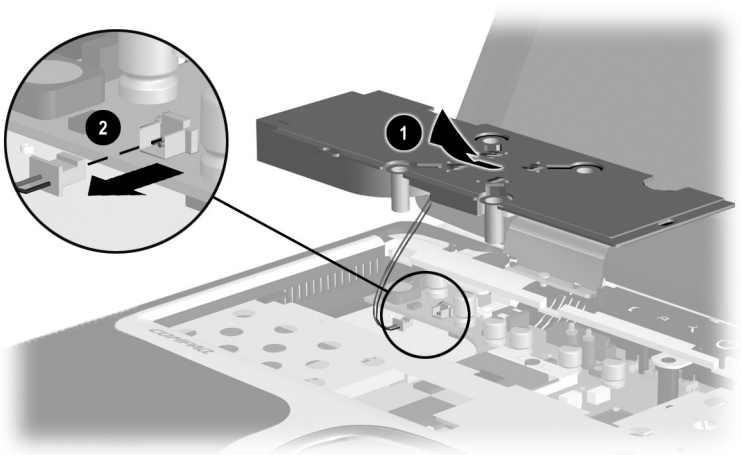

Figure 5-16. Removing the Heat Sink
6. Slide the heat sink forward **1** and rest it on the base enclosure (Figure 5-16).